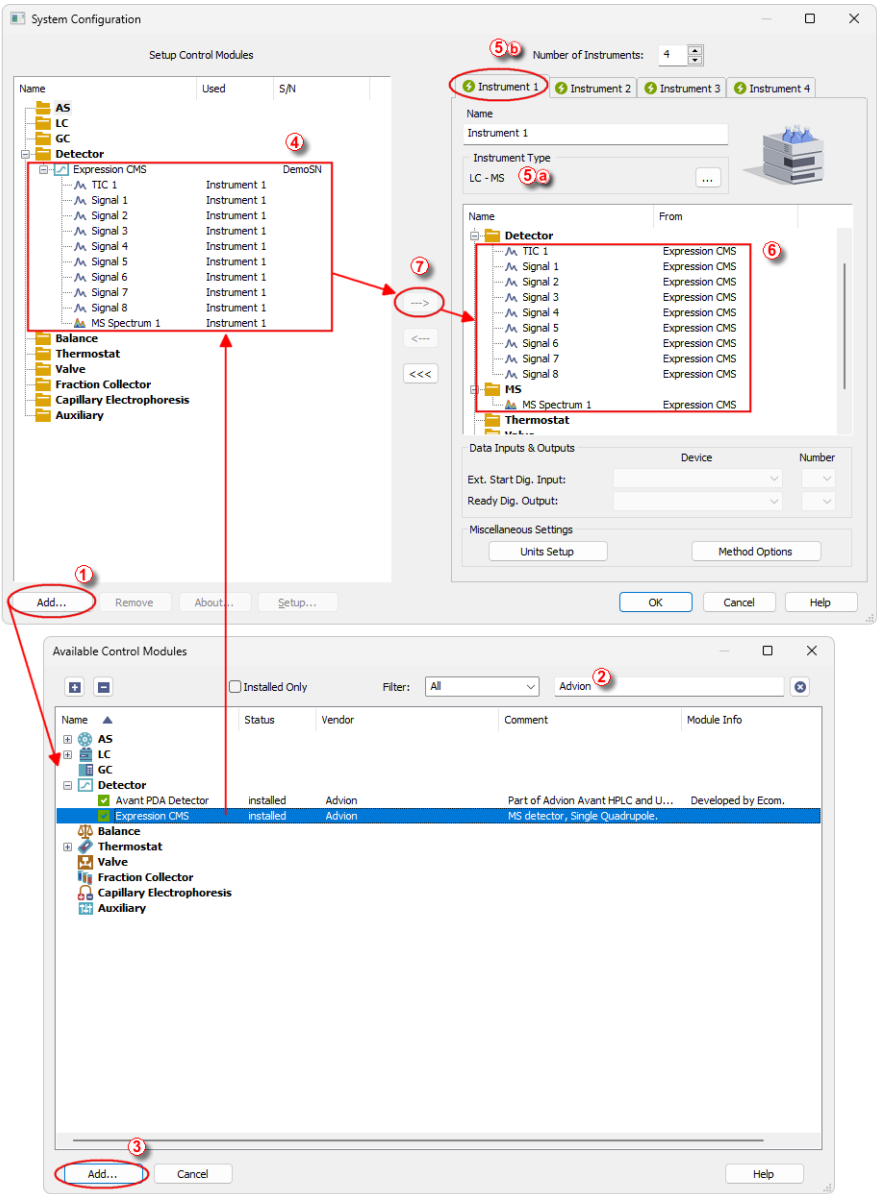

Fig. 2: How to add Advion Expression CMS
- Press the **Add** button ❶ (see **Fig. 2** on pg. 4.) to invoke the **Available Control Modules** dialog.
- You can specify the searching filter ❷ to simplify the finding of the driver.
- Select the **Expression CMS** and press the **Add** ❸ button.